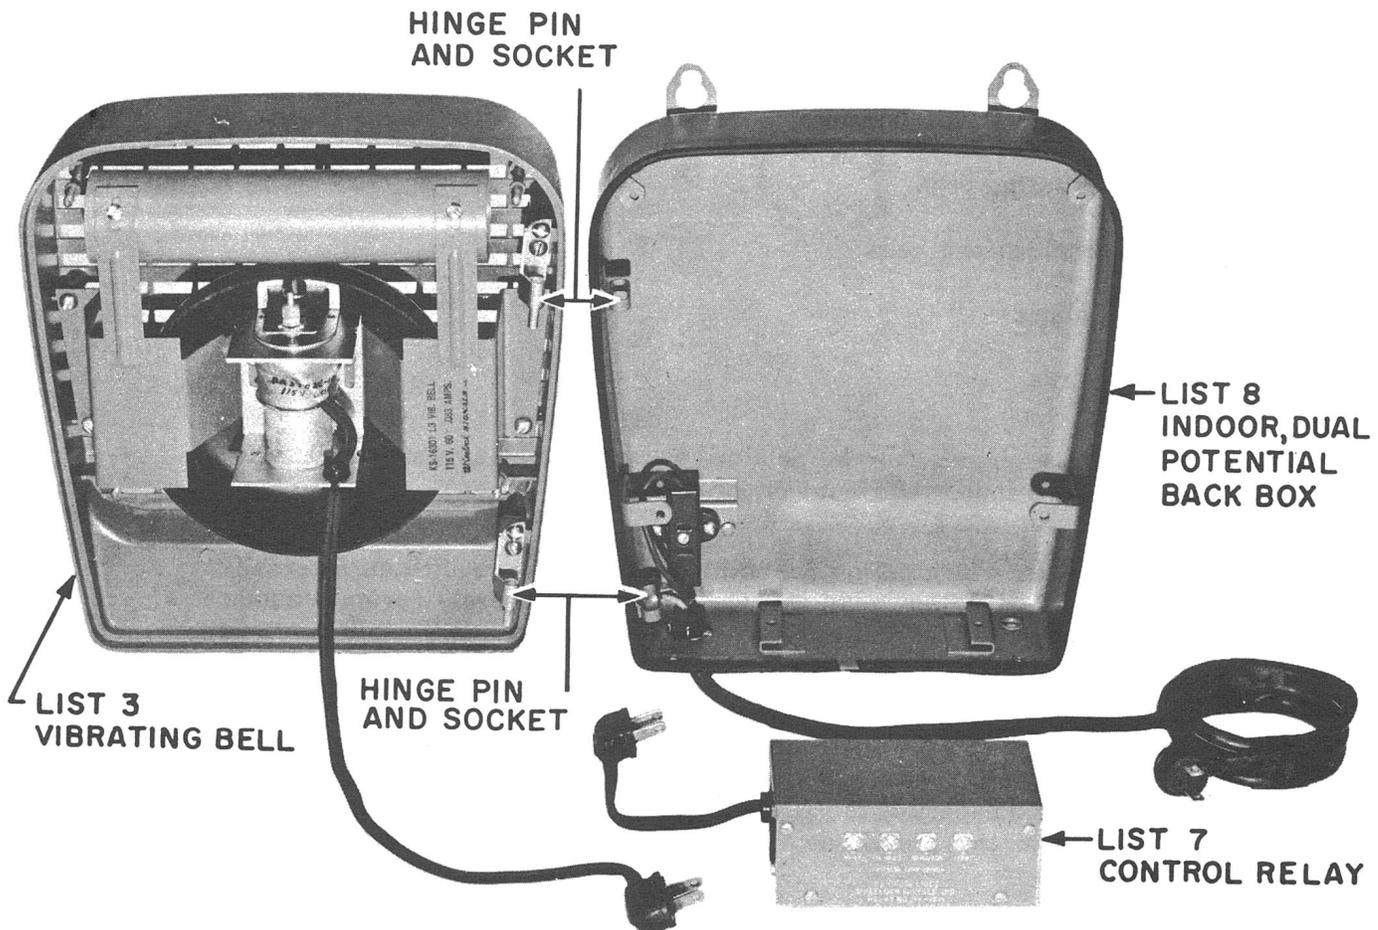

Fig. 1 – KS-16301 Signal
3.04 Each signal is equipped with a 2-conductor cord and plug and is shipped mounted to the grilled cover. This cord connects to receptacle of control relay or to power receptacle in back box (see Fig. 1).